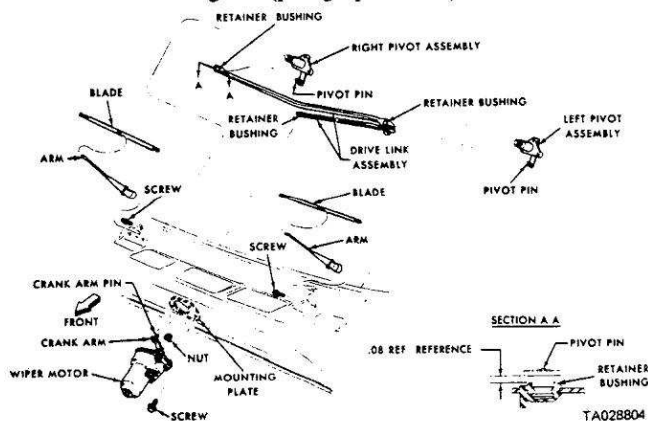
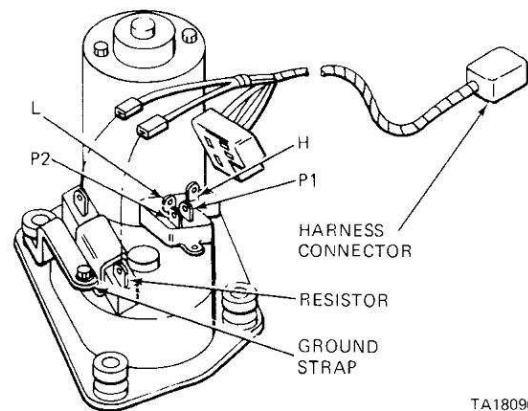

Figure 2-55. Wiper Linkage.
Figure 2-56. Wiper Motor Terminal Identification.
Wiper system mechanical connections are shown in figure 2-55, and wiper motor terminals are identified in figure 2-56. Before troubleshooting the system, make sure the fuses are okay. To gain access to the wiper linkage, remove the cowl grille (paragraph 2-112).
(1) Turn the ignition switch to ACC and turn the wiper switch to the slow speed position.
(2) If you can hear the motor running, check the motor output shaft. If the shaft is not turning, replace the wiper motor (paragraph 2-56). If it is turning, either the drive link to the output shaft or the linkage itself is not connected properly; reconnect it.
(3) If the motor is not running, connect a voltmeter between motor terminal L and ground (figure 2-56). If you have about 12V at terminal L and the panel switch circuit breaker is not cycling, the problem is one of the following:
(1) If the motor will not run at high speed, put the panel switch in high position and connect a voltmeter between motor terminal H and ground (figure 2-56).
(2) If there is no voltage at the motor terminal, there is an open in the wiring or switch. If there is voltage at the motor terminal, replace the motor.
(1) If the motor will not run at low speed, put the panel switch in the low position and connect a voltmeter between motor terminal L and ground (figure 2-56).
(2) If there is no voltage at the motor terminal, there is an open in the wiring, switch, or resistor. To check the resistor, move the voltmeter from terminal L on the motor to the terminal on the resistor that has the brown and yellow tracer wire. If there is voltage, replace the resistor.
(3) If there is voltage at the motor terminal, replace the motor.
(1) Remove the wiring harness. Connect a jumper from terminal P₂ to terminal L (figure 2-56).
(2) Connect a second jumper from terminal P₁ to the battery. If the motor now runs to the park position and stops, the panel switch is faulty (paragraph 2-36). If the motor keeps running and does not park, replace the motor (paragraph 2-56).
(1) Remove the wiper motor (a, above).
(2) Remove the nut attaching the crank arm to the motor drive shaft.
(3) Remove the crank arm (figure 2-55).